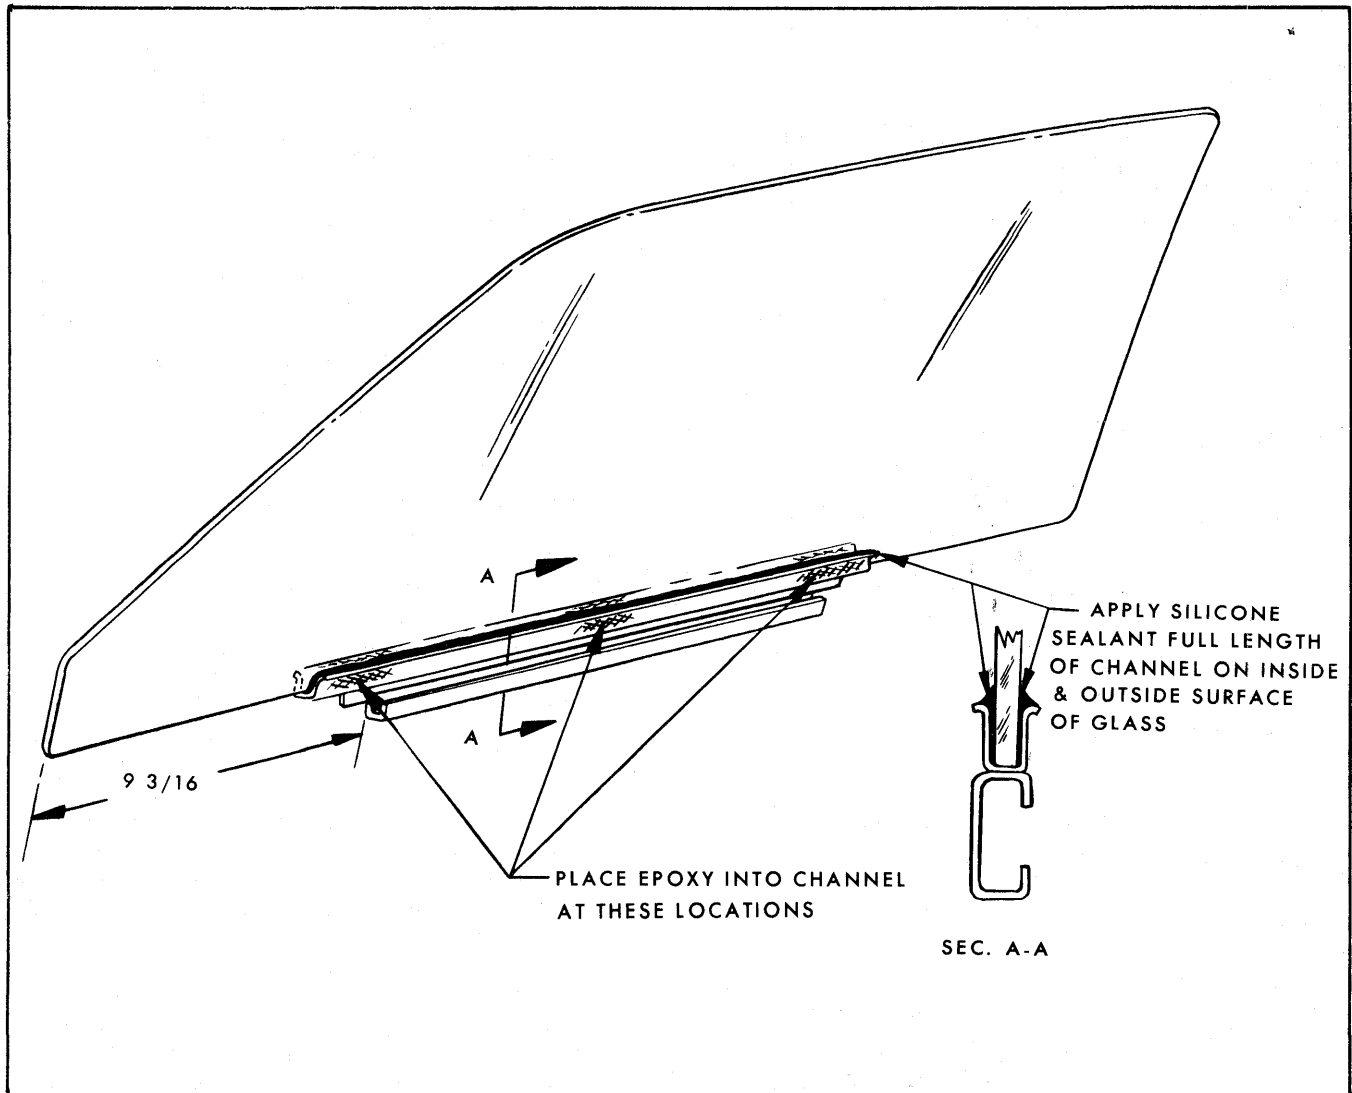

Fig. 5-14-Door Glass Lower Sash Channel Cam
5. If replacement glass is being installed, locate the front of sash 9-3/16" from lower front edge of glass (Fig. 5-14).
6. To bond channel to glass, a two-part epoxy such as "3M Structural Adhesive No. 8101" or equivalent is required. Thoroughly mix approximately one and one-half tablespoons of adhesive per package instructions. Place adhesive into channel at three locations indicated in Fig. 5-14.
8. After full epoxy cure, flow a thin bead of silicone adhesive such as "Dow Corning RTV 732 Silastic", "3M Super Silicone Part No. 8661" or equivalent the full length of channel surface to prevent water entrapment in channel (Fig. 5-14).